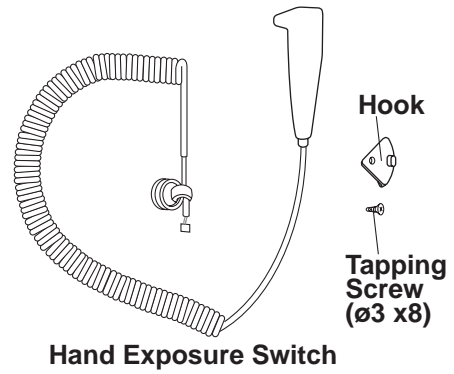

Fig.3-22 Hand Exposure Switch Kit
1. Confirm the contents of optional hand exposure switch kit. (Fig.3-22)